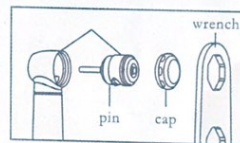

Fig. 10
- 5) Insert the new cartridge into the head by aligning the pin on the cartridge with the slot on the head. (Fig. 10)